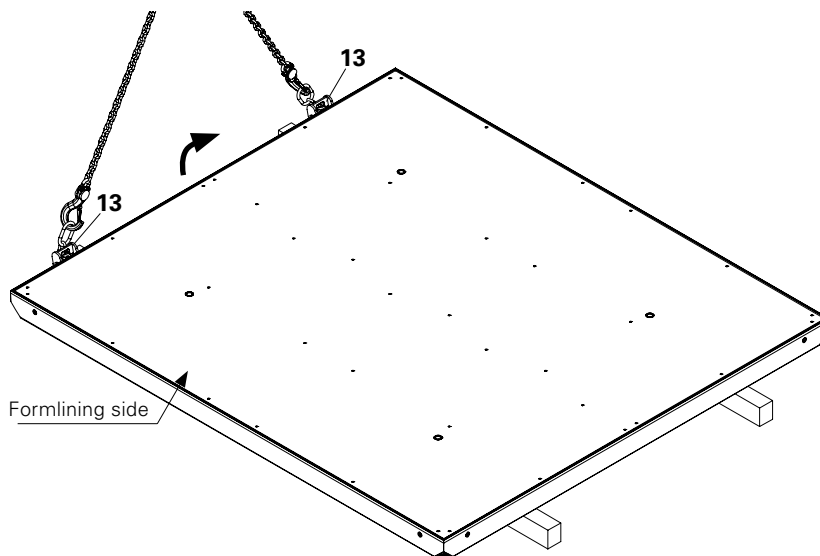

Fig. A1.06
1. Attach lifting hook (13) to the panel – 2x. (Fig. A1.06)
2. Turn panel, i.e. pull upwards while suspended on the crane using the lifting hook until the panel is in a vertical position, and then slowly lower onto the timbers with the formlining facing downwards. (Fig. A1.06 + A1.07 + A1.08)